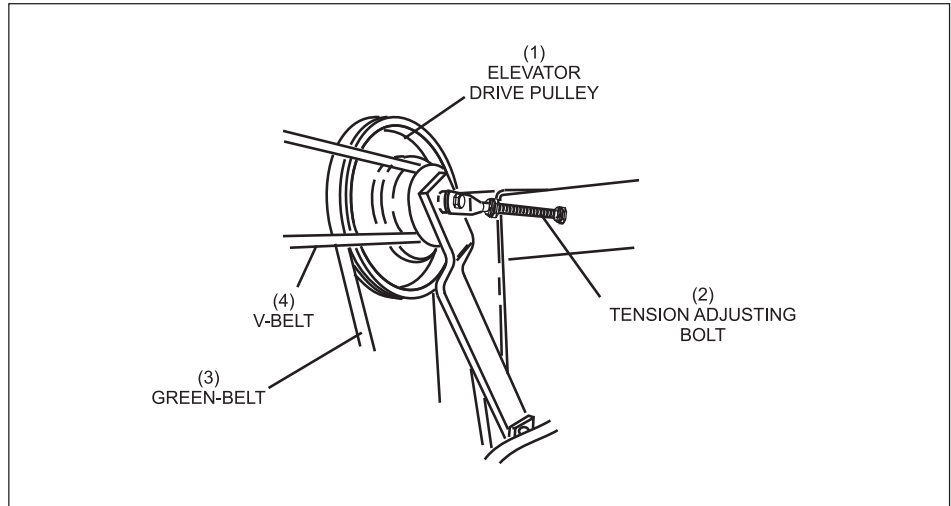

Figure 5-18. Tension Adjustment.
- b. Loosen the tension adjusting bolt. Refer to *Figure 5-18*.
- (1) ELEVATOR DRIVE PULLEY
- (2) TENSION ADJUSTING SCREW
- (3) GREENBELT
- (4) V-BELT